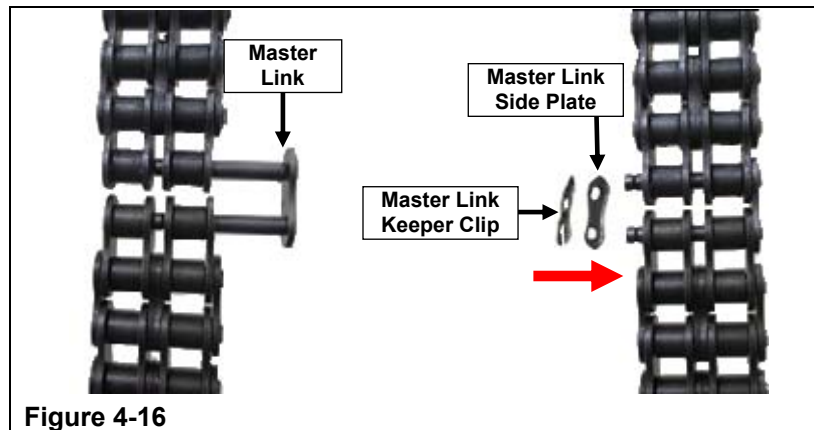

Figure 4-16
- Step 16. Attach the NEW roller chain section to the OLD roller chain section using a roller chain master link and all other hardware. (Refer to Figure 4-16)